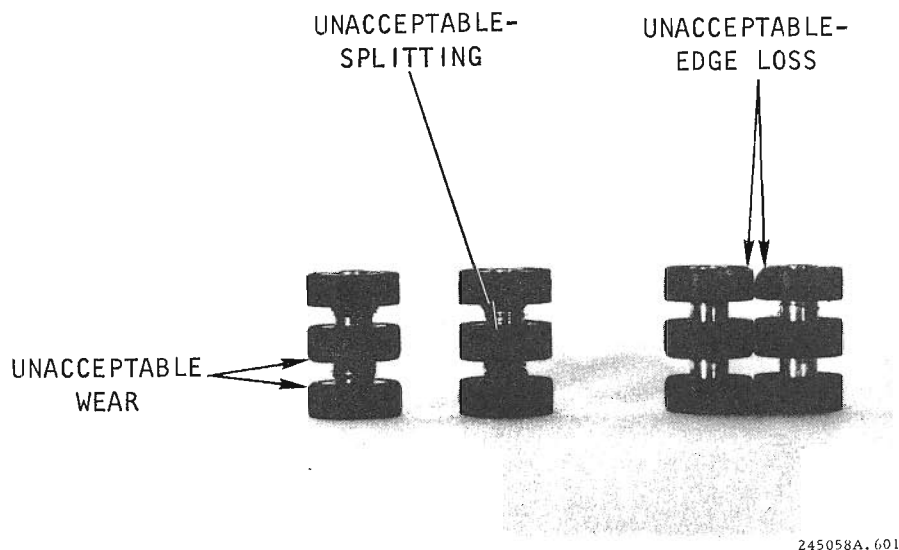

Figure 5-1. Ribbon Drive Rollers
- i. To clean the ribbon drive rollers, moisten a soft cloth with the cleaning solution and clean the pivot arm roller, the ribbon drive roller, the ribbon guides, and along the path traveled by the ribbon. (See figure 5-1 for an illustration of some of the ribbon drive roller problems requiring replacement.)
Check the Ribbon Drive Rollers for wear, splitting, or loss of edge (see figure 5-1). Replacement, if necessary, should be performed by a technician.